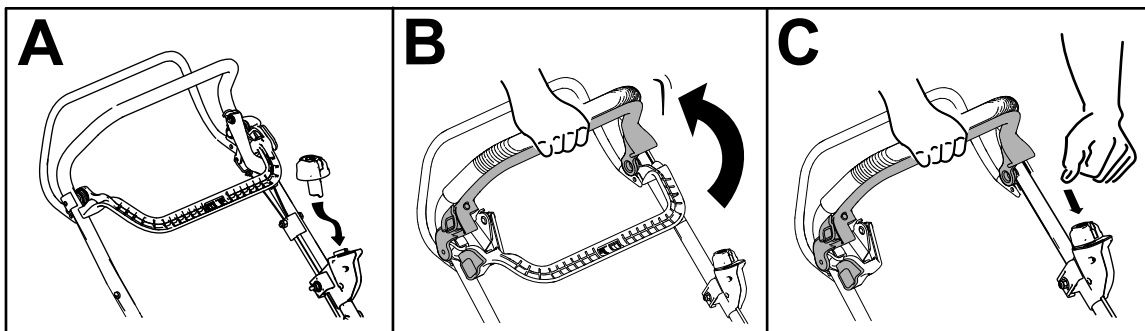

Figure 14
2. Insert the electric-start button into the electric starter switch (A of Figure 14).
3. Squeeze the blade-control bar and hold it to the handle (B of Figure 14).
4. Press the electric-start button and keep it pressed until the motor starts (C of Figure 14).